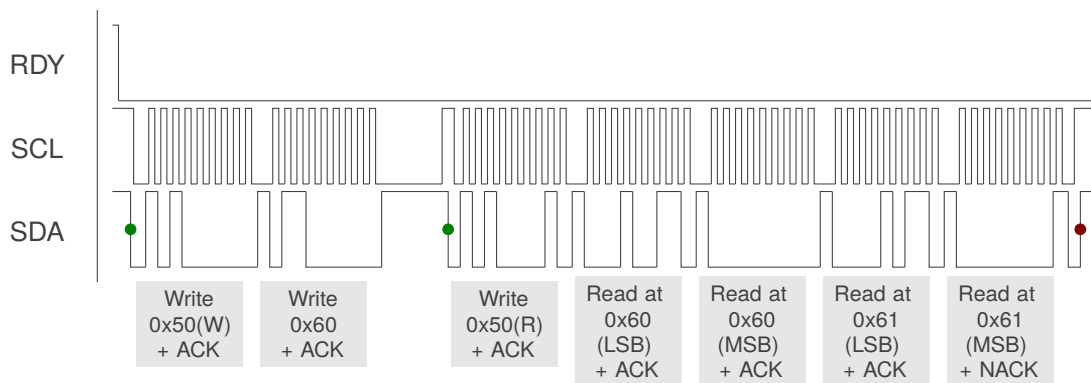

Figure 11.1: I²C Read Example — Read Status Registers 0x10 and 0x11
A typical read operation is displayed in Figure 11.1. The master device waits for the RDY line of the IQS7221G to go low, indicating the availability of new data and an available communication window. Once the RDY interrupt is triggered, the master initiates communication by sending a start condition followed by the device address and a write command. The IQS7221G responds with an acknowledgement, after which the master device will transmit one byte defining the register address. The master then sends a repeated start condition, followed by the device address with a read command. The IQS7221G transmits data from the requested address and will continue to do so while the master acknowledges each byte. The read operation is ended when the master does not acknowledge the last byte received and produces a stop condition.
- > Read the *System Settings 1* Register (0x60) as illustrated in Figure 11.1.
With the *Stop End Comms Disable* setting disabled in the *System Settings 2* register, a standard I²C STOP ends the current communication window. If multiple I²C transactions need to be done, then they should be strung together using repeated-start conditions instead of giving a STOP. Allowing an I²C STOP to terminate the communication window is the recommended method, as illustrated in Figures 11.1 and 11.2.